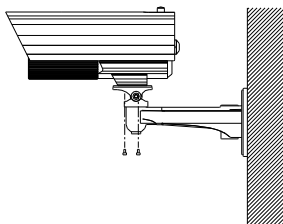

Figure 2-2 Fix the Camera
3. Secure the camera to the wall mount with screws as shown in Figure 2-2.